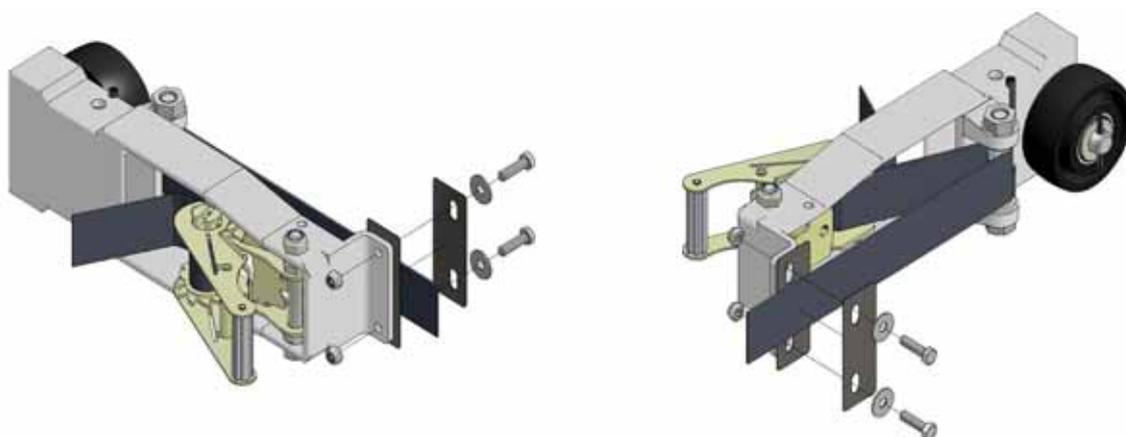

Figure 15
4.6 Bolt each Trolley back to the screen as shown in Figure 15 (image has fabric removed for clarity) using the M8 x 30 Bolts supplied. To allow the Bolt to pass through the Panel cut a slot 15mm to 20mm long in the Fabric. Note the webbing strap is placed between the two PVC Pads.